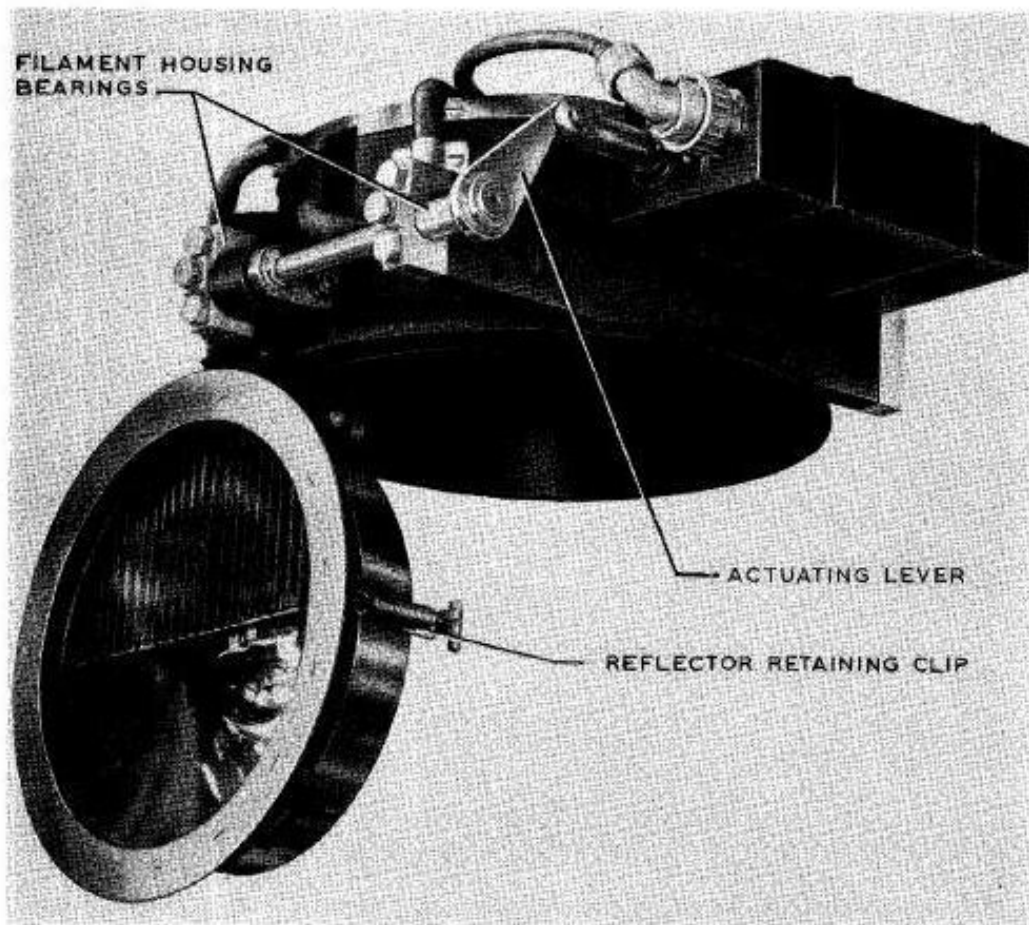

Fig. 1. Harley Landing Lamp, Type 6MK 2.
2. The Harley landing lamp Type 6 Mk. 2 consists of the following: the outer housing, the operating mechanism, the filament housing and the filament lamp, shown in fig. 1.